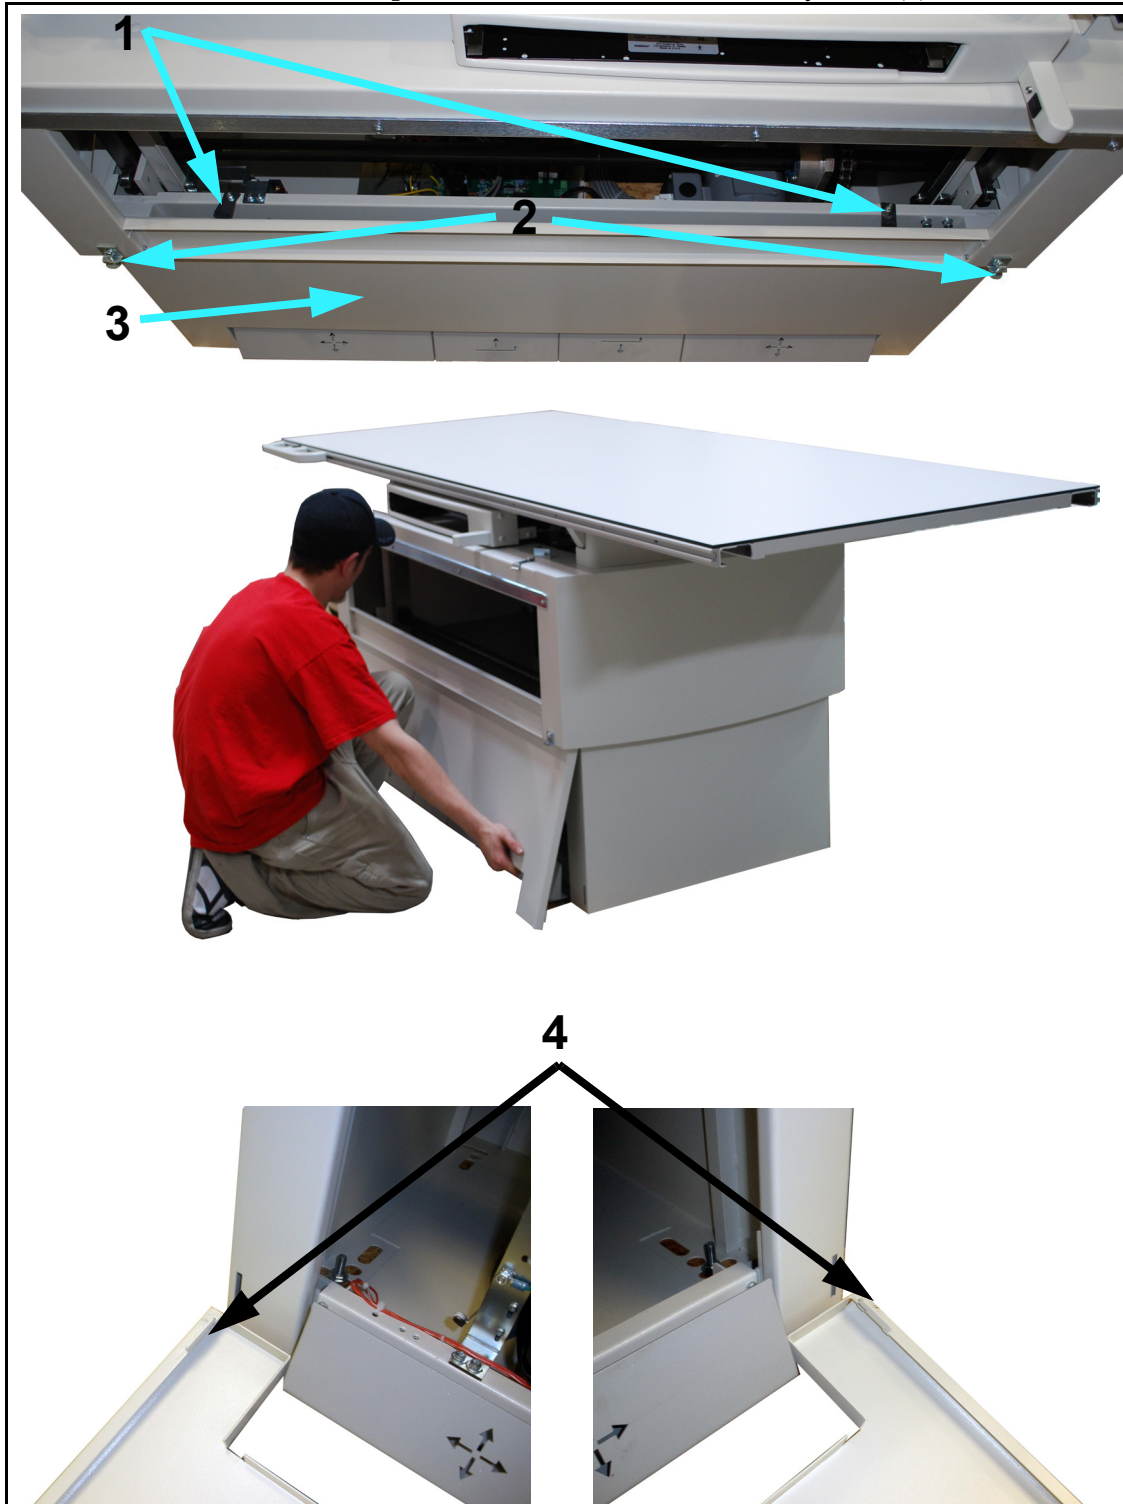

Figure 4-2. Lower Panel Clamps
- 4 Unscrew the two lower panel clamps screws (1 in Figure 4-2), then remove the upward panhead screws (2) .
- 5 Lift the lower panel (3) up slightly and then pull it out. The bottom of the lower panel is connected to the table by slots (4) shown below.
- 5 Unscrew the two lower panel clamps screws (1 in Figure 4-2), then remove the lower panhead screws (2).
- 6 Lift the lower panel (3) up slightly and then pull it out. The bottom of the lower panel is connected to the table by slots (4) shown below.